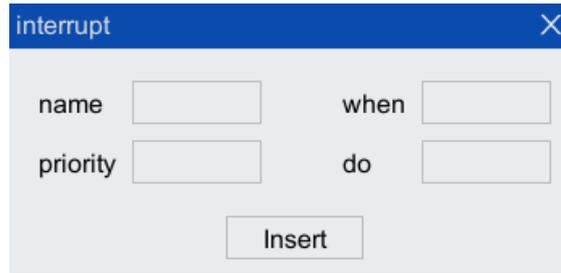

Figure 5-32 "Interrupt" instruction configuration interface
Step1. Click "Insert Cmd> Interrupt Trigger> Interrupt" option in the toolbar of the program editor to pop up "interrupt" instruction interface, as shown in Figure 5-32.